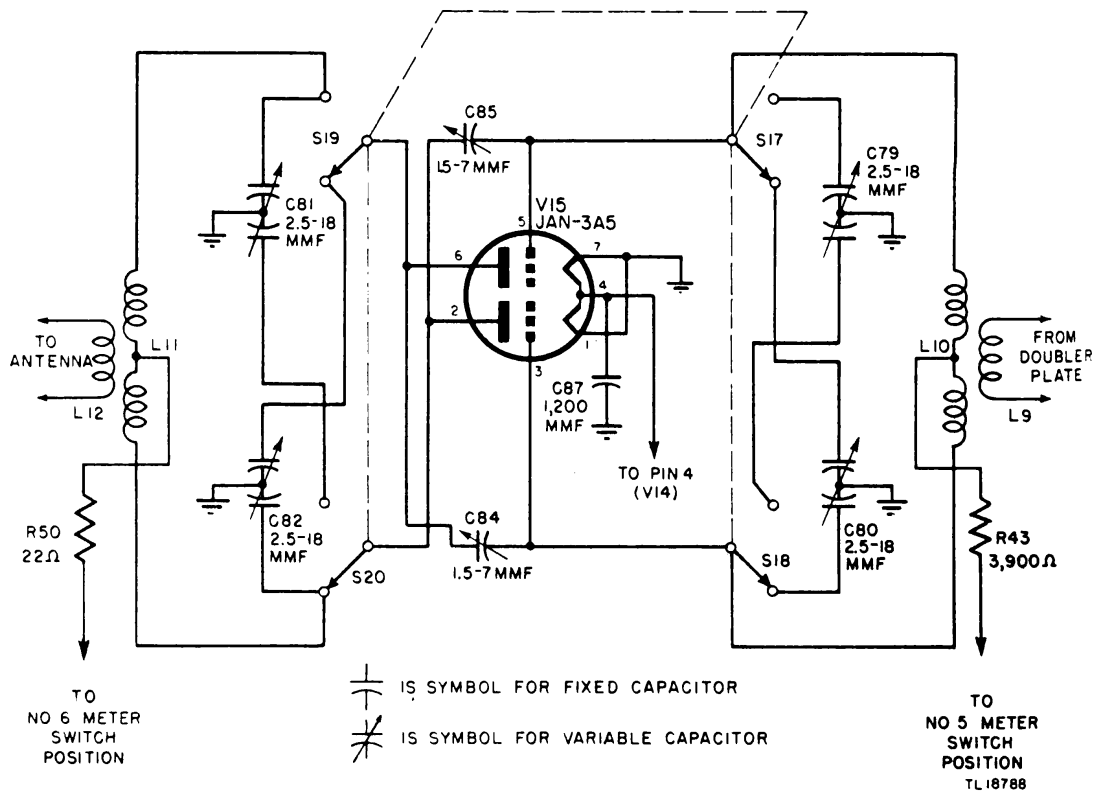

Figure 64. Transmitter power amplifier.
a. The output of the doubler-driver is inductively coupled to p-a Tube JAN-3A5, V15 (fig. 64). Tube V15 is a twin-triode connected in a push-pull neutralized circuit. The grid circuits are tuned by means of split-stator capacitor C79 or C80 in parallel with coupling coil L10. The coil is coupled to the plate coil of the doubler-driver. A protective bias of -4.5 volts is applied through the meter circuit and resistor R43. The rotors of the tuning capacitors are grounded, thus fixing the electrical center of the grid circuit at the center of coil L10. This insures the proper out-of-phase condition for the two grids necessary for push-pull operation. The grid supply is bypassed for radio frequency by capacitor C44, and the filaments by capacitor C86.